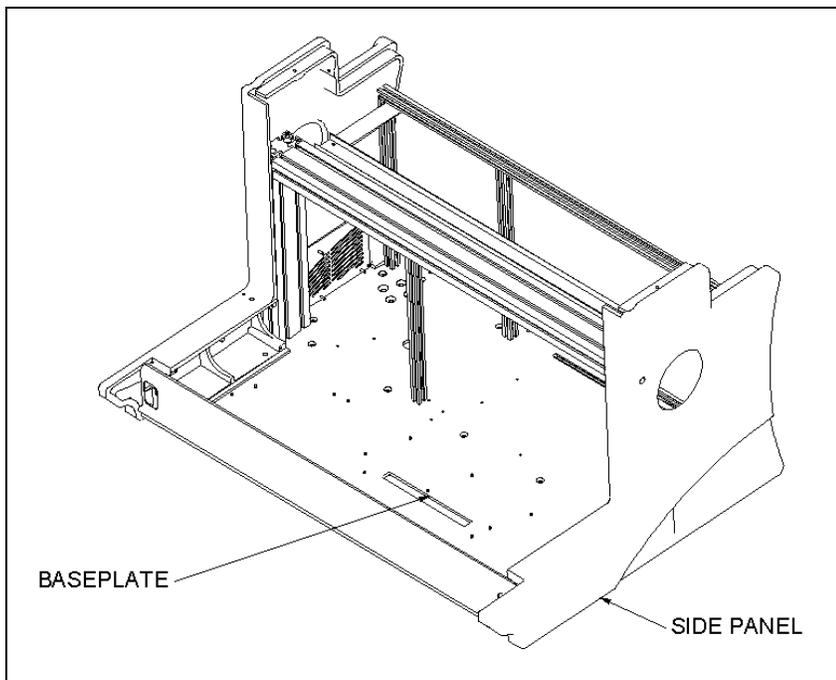

Figure 16-4 Right Side Panel
The right side panel (Part No. 204012600) is shown in Figure 16-4.
- 2 Remove the three M6 X 12mm BHCS screws that attach the right side panel from the top of the baseplate (two in front, one in rear) as shown in Figure 16-4.